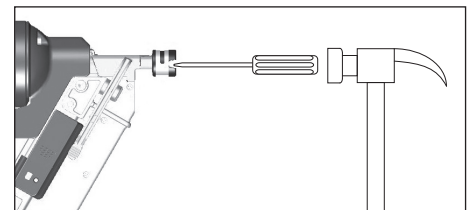

Figure 24
4. If necessary, use small hand tools to help free the jammed nail. Sometimes it is necessary to use a hammer and a long, thin screwdriver to force the driver ram back all the way into the gun (See Figure 24).